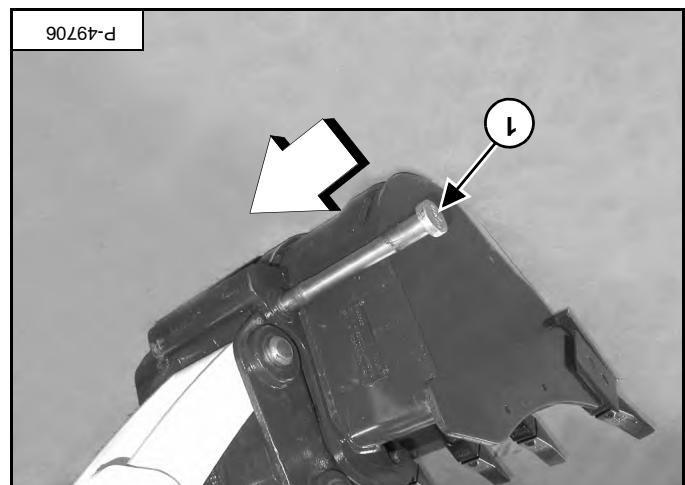

Figure 76
- Drive the pin (item 1) [Figure 76] through the attachment mount and X-Change.